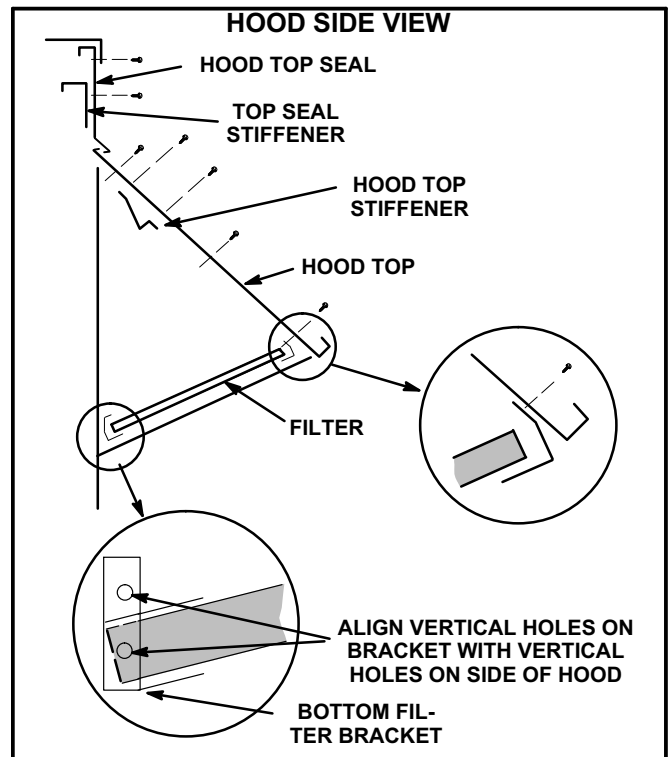

FIGURE 23
- 5- Secure hood top stiffener to unpainted side of the hood top with ten screws. See figures 23 and 24.
- 14- Align the two holes on the left hood side with the two holes in the bottom filter bracket. See figures 23 and 25. Secure with screws.
- 15- Secure bottom filter bracket to right hood side in the same manner. See figures 23 and 26.
- 17- Secure the top filter bracket (long) to the hood top. See figures 23 and 24. Slide two filters into place.
- 18- Insert the third filter into the bottom filter bracket. Position the top filter bracket (short) as shown in figures 23 and 24. Secure the bracket to the hood top with screws.